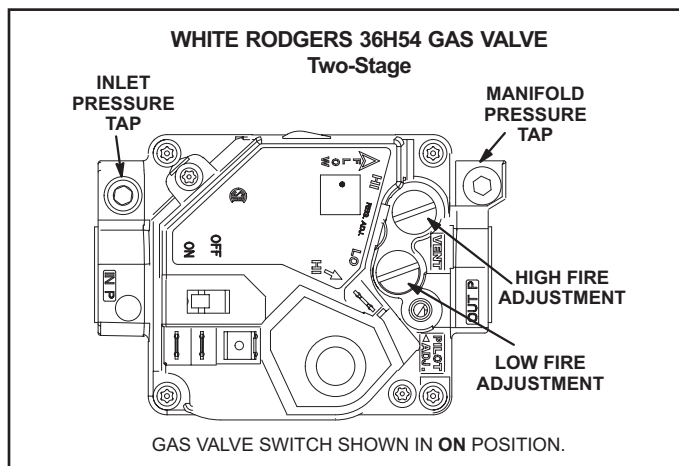
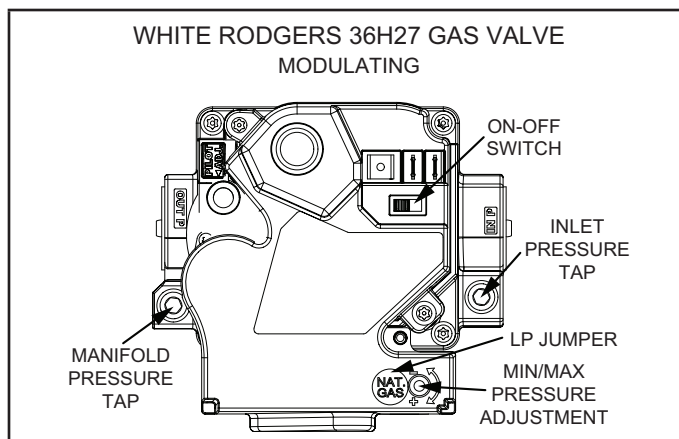

FIGURE 35
FIGURE 36
For White Rodgers 36H54 and 36H27 valves (FIGURE 35 and FIGURE 36) manifold pressure, remove the 1/8" hex screw, install 1/8" fitting with hose barb, connect hose from barb to "+" side of measuring device.
- 4 - If necessary, adjust manifold pressure. FIGURE 35 and FIGURE 36 show adjustment screw(s) locations.
For White Rodgers 36H54 and 36H27 valves (FIGURE 35 and FIGURE 36), remove 1/8" fitting with hose barb and reinstall 1/8" hex screw.
For White Rodgers 36H54 and 36H27 valves (FIGURE 35 and FIGURE 36), supply pressure is accessed by removing 1/8" hex screw. Remove the 1/8" hex screw and install a 1/8" fitting with hose barb. Connect tubing from the barbed fitting and route to measuring device to measure supply pressure.
For White Rodgers 36H54 and 36H27 valves (FIGURE 35 and FIGURE 36), remove supply pressure barbed fitting and reinstall the 1/8" hex screw.